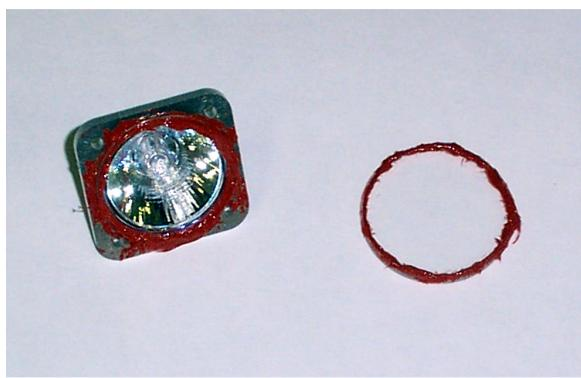

Figure 23: ATR Light Gasket
1. The glass is high temperature glass that is resistant to thermal shock. The problem with the glass is it is fragile. Both sides of the glass should be coated with a 100% pure silicone as shown in Figure 23. Let the bead of silicone to dry
2. The glass on the light will also bread if its brought in hard contact with metal. The backing plate shown in Figure 23 should also be coated with silicone and then the light can be set into it. Don't push the light too hard or you will squish all the silicone out. Let it dry